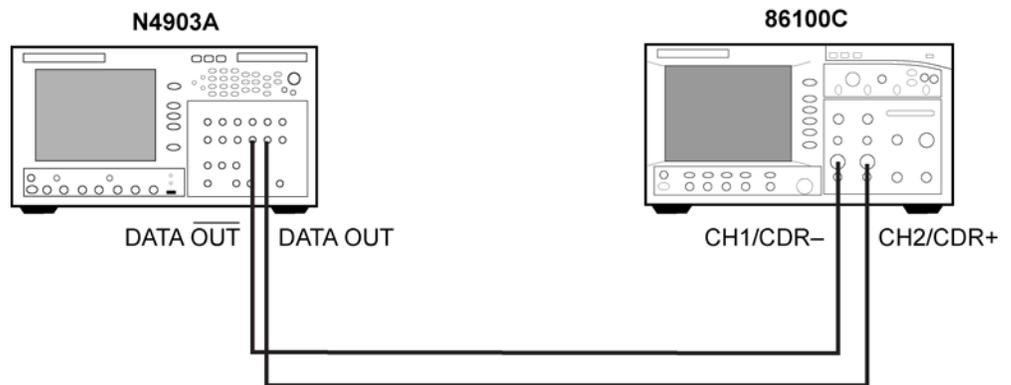
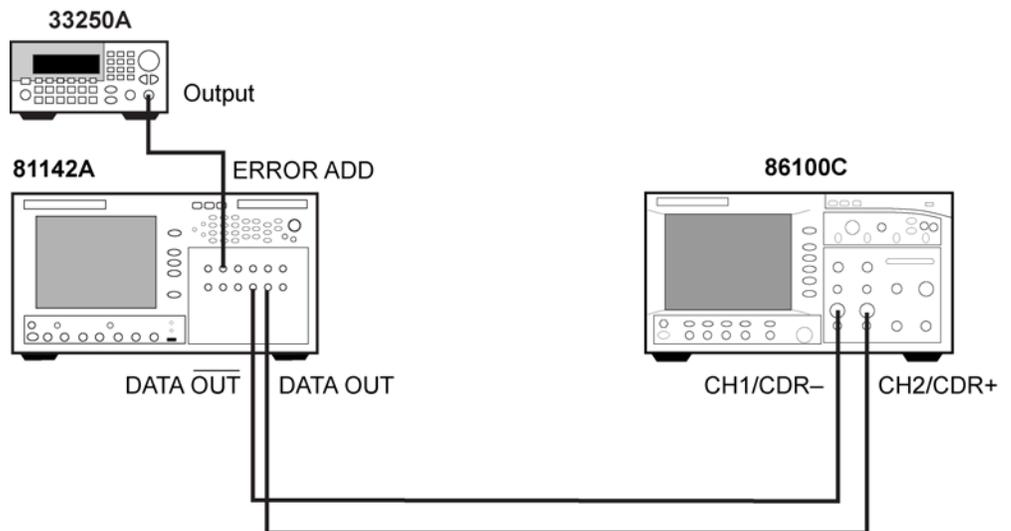

Figure 3-3. N4903A Connected to the 86100C
Figure 3-4. Alternate Setup Using Separate Data and Jitter Sources
- 1 Connect the source instrument directly to the 86100C. Do not connect the DUT at this time. Figure 3-3 shows the connection if you are using an N4903A. If you using separate jitter and data sources, connect the equipment as shown in the example of Figure 3-4. Connect the source's output signal to the appropriate on the 86100C clock recovery input as described in “Clock Recovery Inputs” on page 3-3.